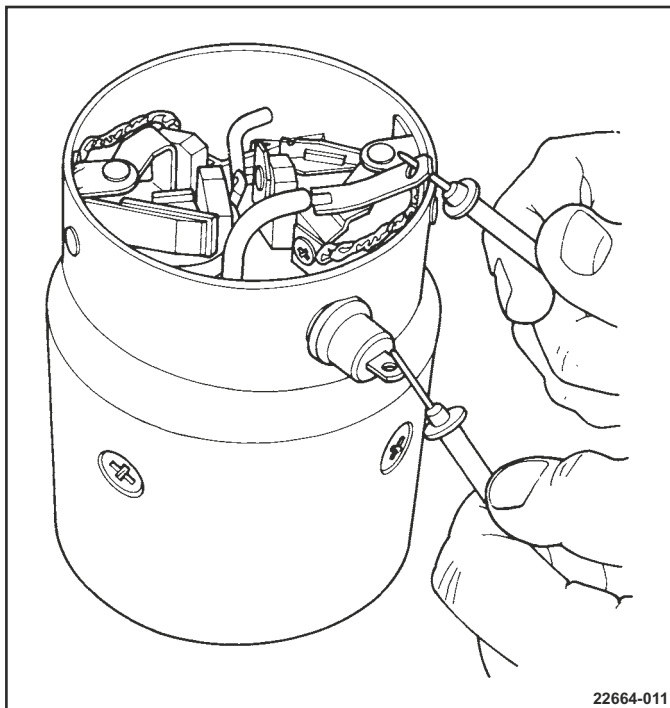

Figure 4-6 Testing Field Coils for Circuit
Figures 4-6 and 4-7
1. With continuity meter, place one lead on each end of field coils (insulated brush and field connector bar) (figure 4-6).